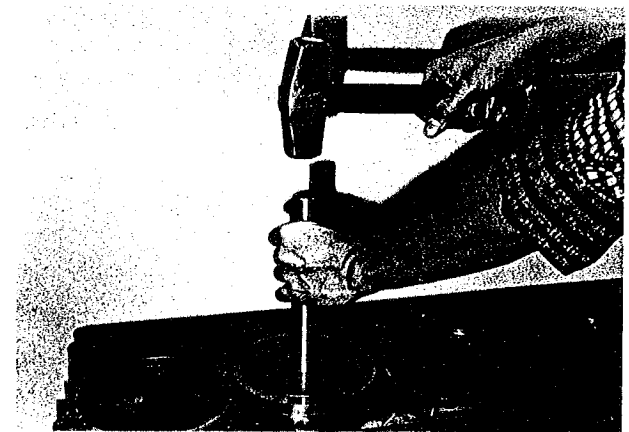
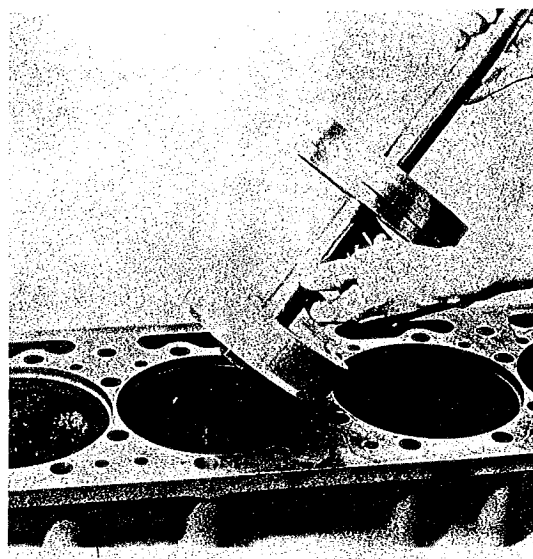

Fig. 12 Driving the bushing into the bore.
Fig. 14 Assembled Bushing Driver
2. Coat the outside diameter of the bushing lightly with PT-7260 LOCTITE COMPOUND and drive it into the bore with the bushing driver (29) using a soft hammer until it bottoms. A solid sound can be heard when the bushing bottoms. (See Fig. 12). Also see Fig. 14 on back side (this page) which shows bushing driver assembled.